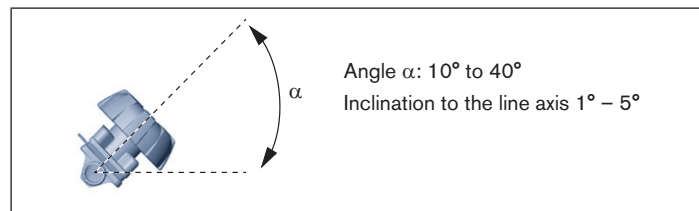
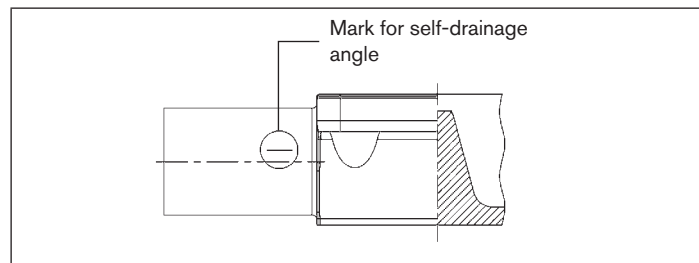

Fig. 5: Installation position for self-drainage of the housing
Fig. 6: Mark for the correct installation position
- Install housing inclined by angle $\alpha = 10^\circ$ to 40° to the horizontal (see Fig. 5). Forged and cast housings feature a mark which must face upwards (12 o'clock position, see Fig. 6).